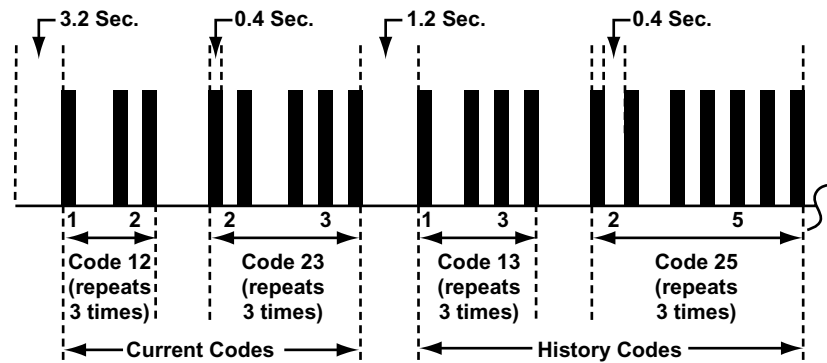

Figure 8-42 Honda SRS Code Type 03
- Type 03, see Figure 8-42 and Table 8-11 on page 85